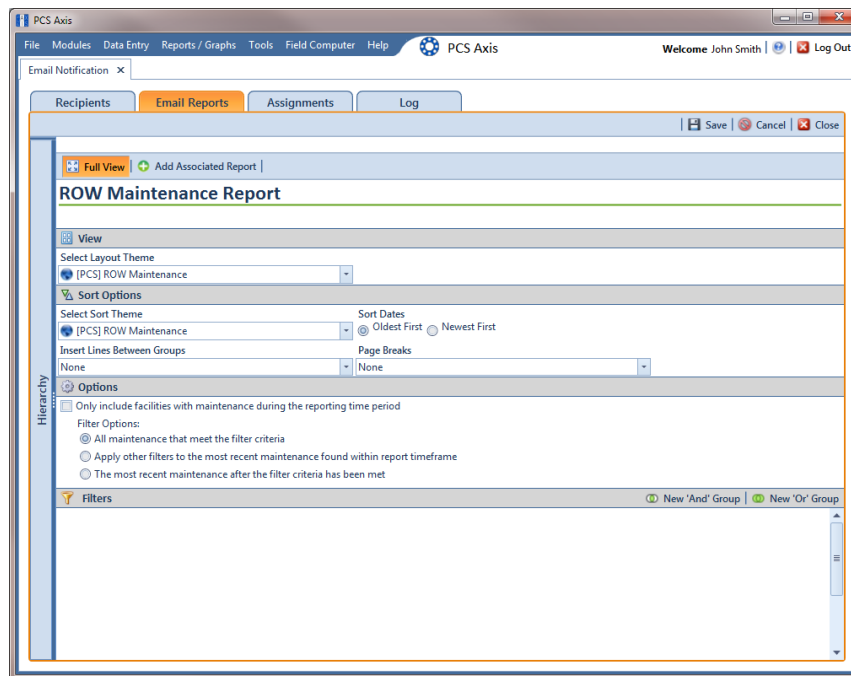

Figure 12-10. Email Reports
- 10 Click **Full View** to only display fields for setting report options. Clicking *Full View* again displays all fields (Figure 12-10).